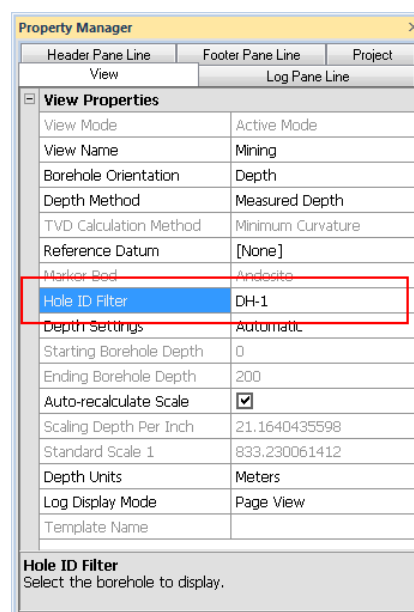

Figure 1.233 – The Hole ID Filter on the View tab
6. Click the **View | View Properties** command to view the borehole view properties in the **Property Manager**, fig. 1.233.